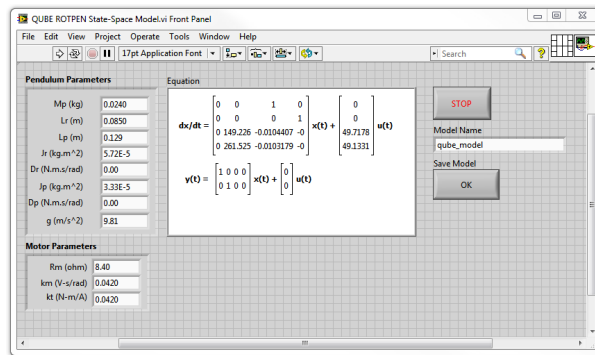

Figure 12.2: VI to generate QUBE-Servo ROTPEN state-space model
1. Run the *QUBE-Servo ROTPEN State-Space Model.vi* shown in Figure 12.2. This loads the QUBE-Servo rotary pendulum state-space model matrices A , B , C , and D and saves it to a file, e.g., *qube_rotpen*.